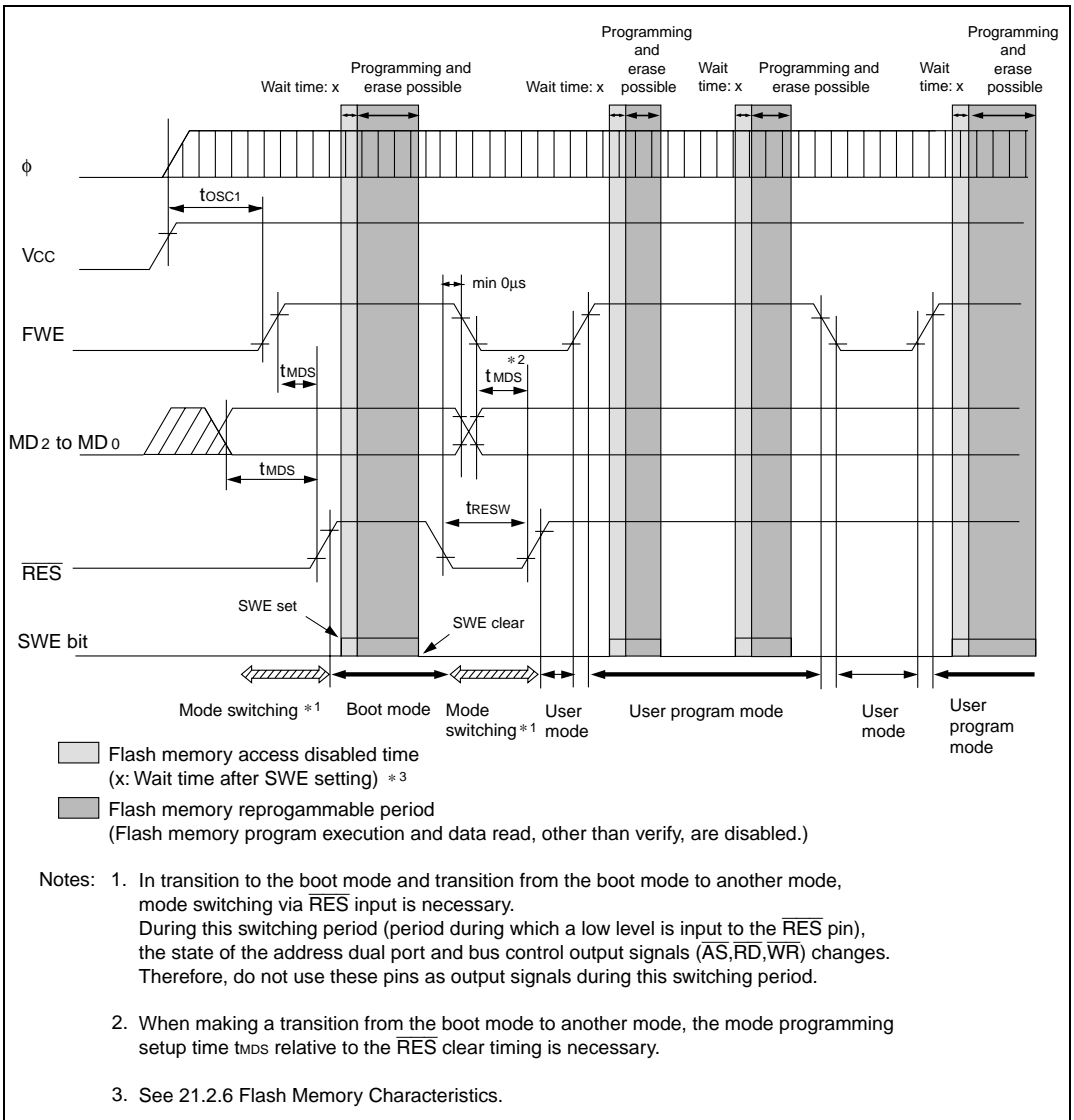

Figure 18.27 Mode Transition Timing
- Fill all the unused addresses with H'FF as shown in figure 18.27 to make the ROM data size 128 kbytes for all H8/3067 Group chips, which incorporate different sizes of ROM. This applies to ordering through an EPROM and through electrical data transfer.